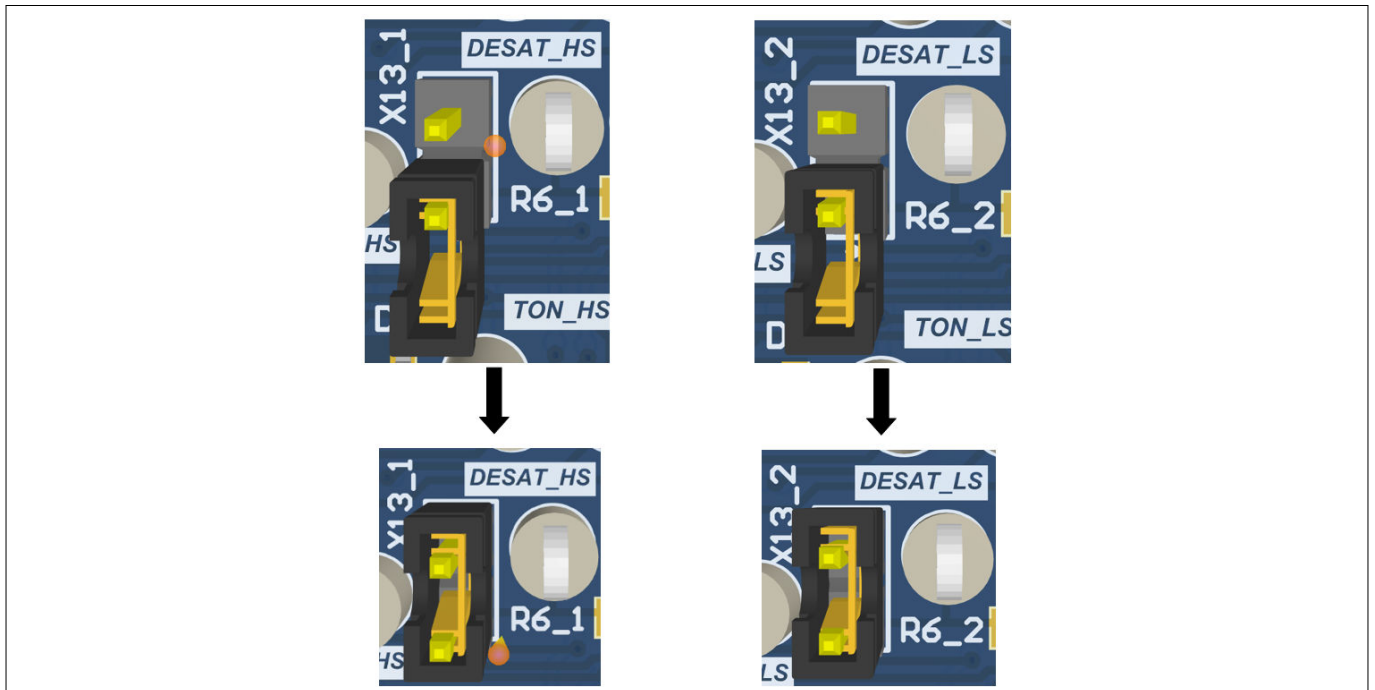

Figure 7 Jumper X13_1 and X13_2 connection
2. Short DESAT to GND with X13_1 and X13_2 on each channel to turn on TOUT when the power device is not connected. It leads to suppression of DESAT supervision. See Figure 7. For further details about jumpers, refer to Chapter 3.5